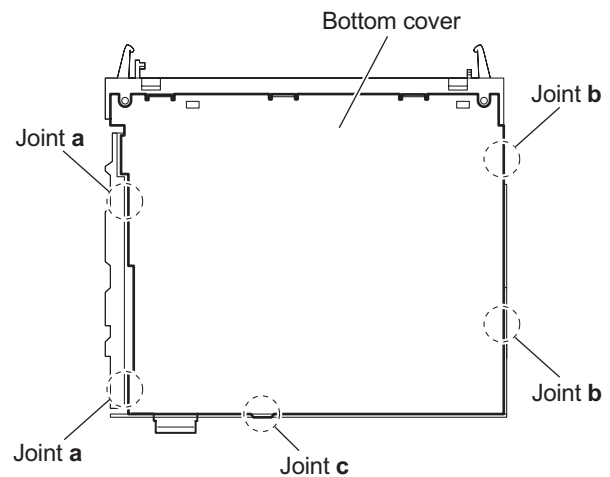

Fig.2
3.1.2 Removing the bottom cover (See Figs.2)